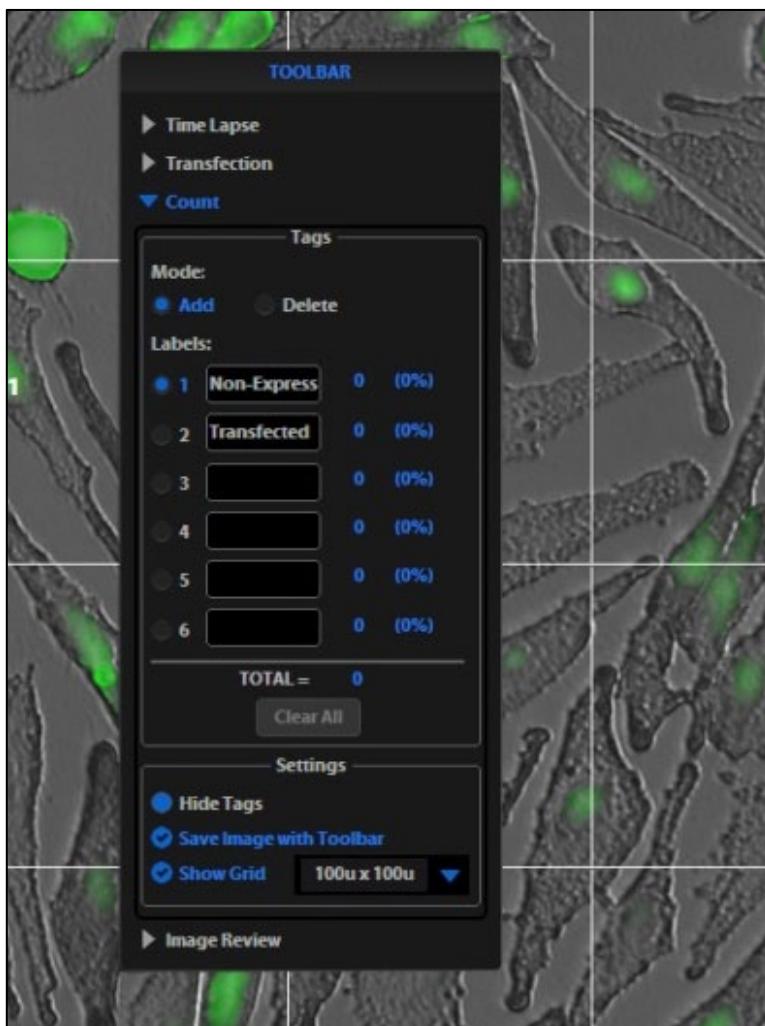

Figure 13 Count Tool
2. Open the Toolbar and expand the Count tool (Figure 13).
3. Click in a text field under the Labels section to name a label. You may use up to 6 labels (Figure 13).